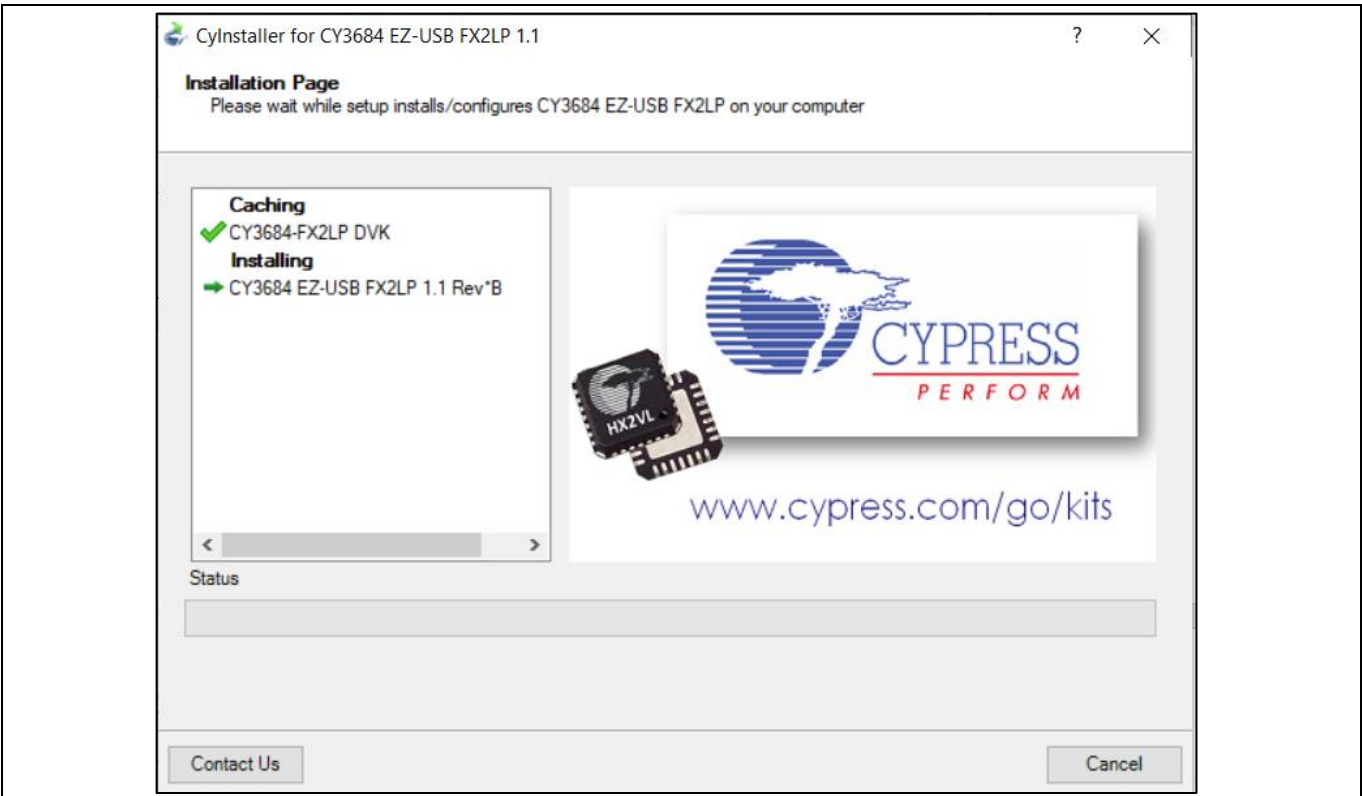

Figure 11 FX2LP SDK Setup Installation
13. The Installation Page will display as in Figure 11.